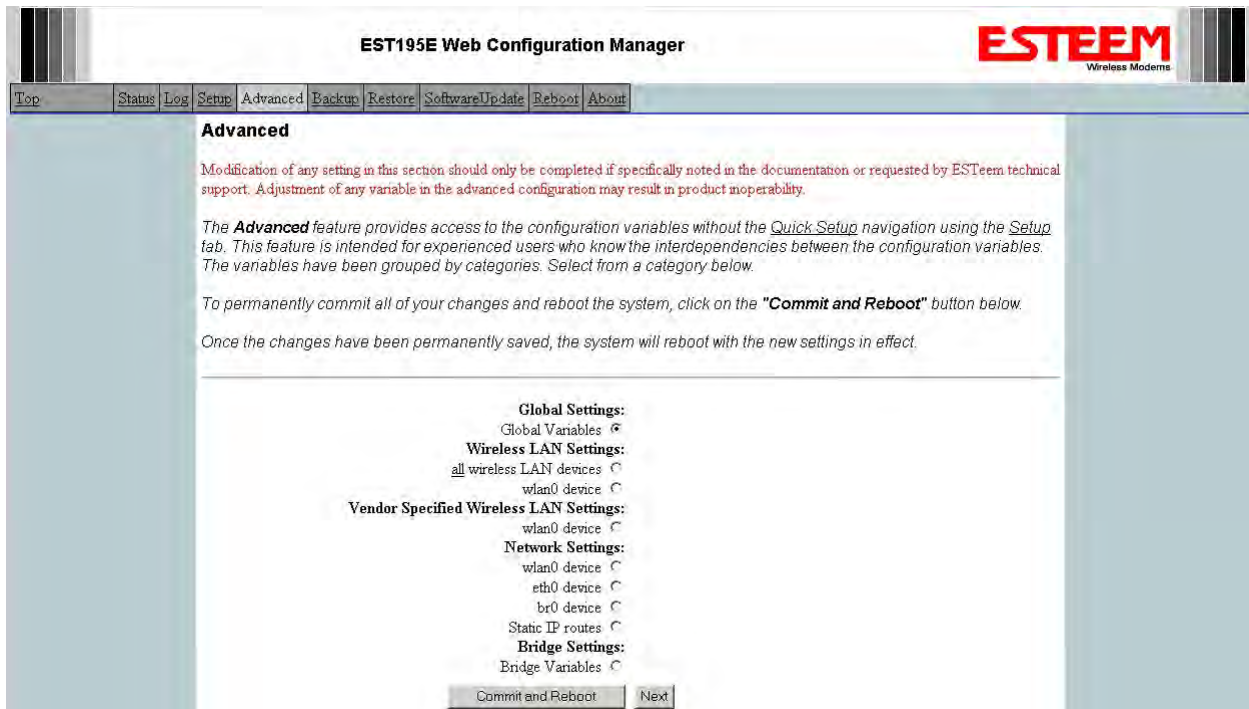

Figure 13: Advanced Settings Menu
7. To complete the configuration, select “Commit and Reboot.” The ESTeem 210 will now commit the configuration changes and reboot. (Figure 13)